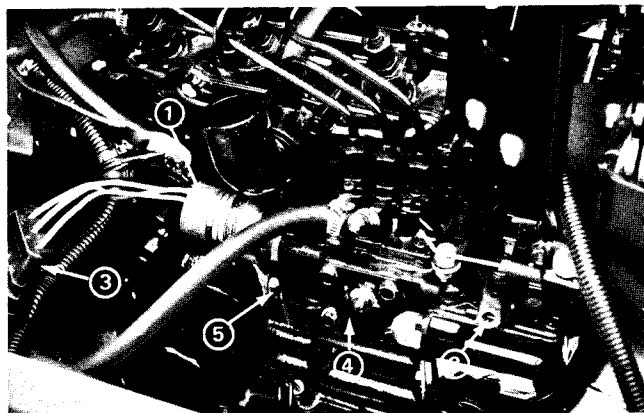

Figure 45
1. Stop the engine. If the engine will not stop when the ignition key switch is turned off, manually push the stop lever (Fig. 45) toward the rear of the machine until the engine stops.
1. Remove the governor tie rod cover (Fig. 45).
6. Remove the cover cap screw from the engine to get access to the solenoid nut (Fig. 45).
2. Remove the governor tie rod cover (Fig. 45).